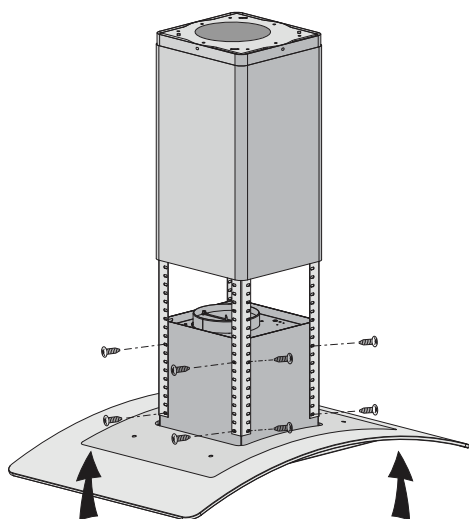

Figure 8
- Use 16 pieces M4 × 10 mm mounting screws to attach the hood into angle irons (see Figure 8).